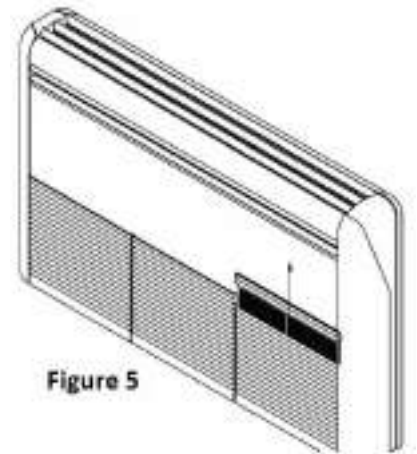

Figure 5
- A. Remove the plastic return grille assemblies to protect it from damage. This will be done by removing the filters and removing two (2) screws in each section. See Figure 5